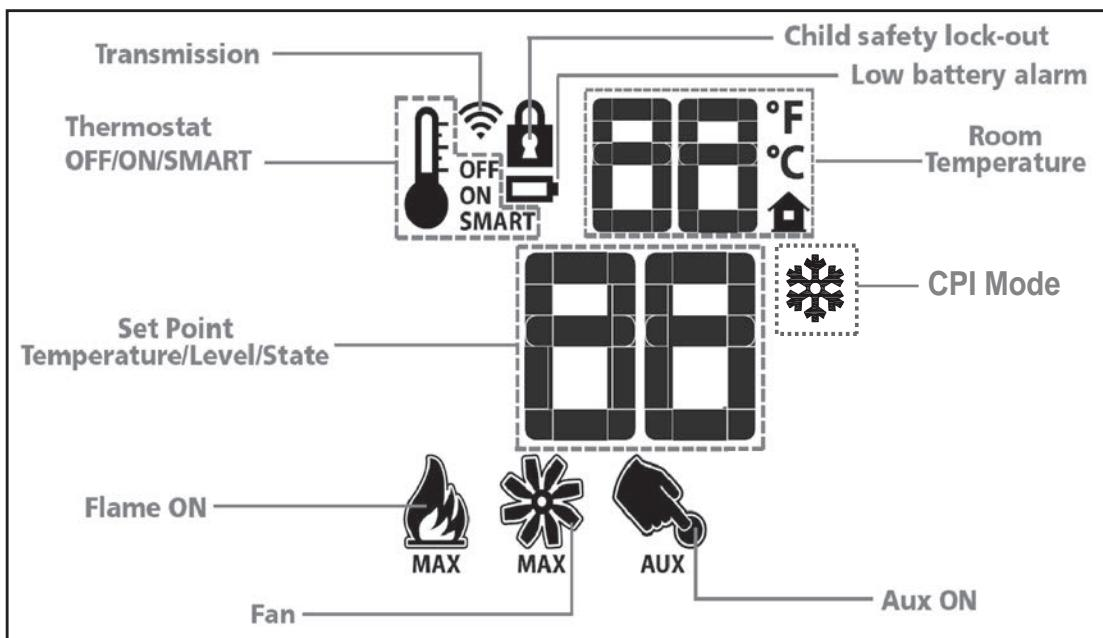

Figure 6: Proflame 2 Transmitter LCD Screen.
The Proflame 2 Transmitter is a black remote control with a blue backlit lcd display. It uses a streamline design with a simple button layout and informative lcd readout (Figure 6). The Transmitter is powered by three (3) AAA type batteries. A Mode Key is provided to Index between the features and a Thermostat Key is used to turn on/off or index through Thermostat functions (Figure 5 & 6)